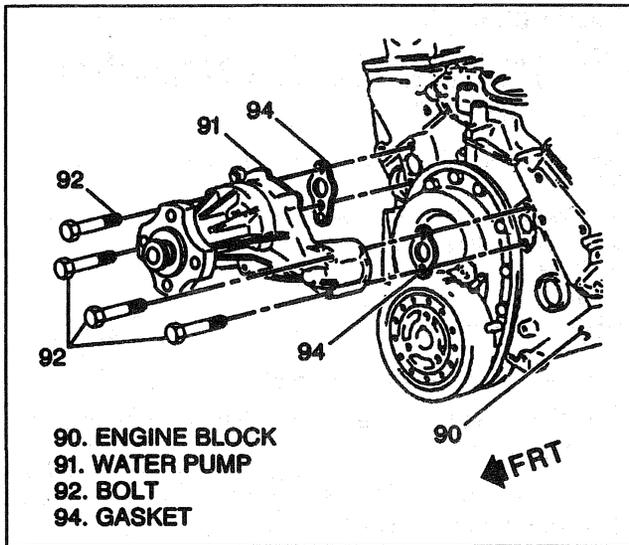

Figure 27—Water Pump and Components
14. Bolts (90, 92, and 96), studs (93 and 97), water pump plate (99), and the water pump (91) (Figure 27).
15. Bolt (98) from the rear of the water pump plate.
16. Water pump (91) and gasket (94) from the plate (99).